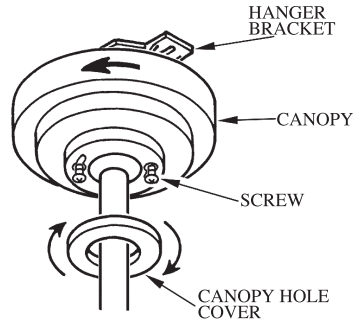

FIG.9
- Loosen the two canopy mounting screws from the hanger bracket. Mount the canopy on the two screws in the hanger bracket and twist the canopy, so the screw heads hold the canopy in place. Retighten the two screws. (see fig. 9)